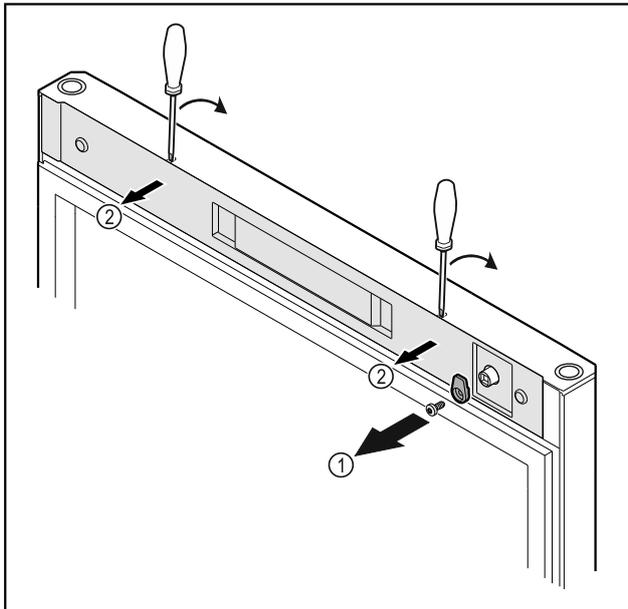

Fig. 8
- ▶ Unscrew the door latch Fig. 8 (1).
- ▶ Unlatch the cover Fig. 8 (2) with a small screwdriver and remove it.